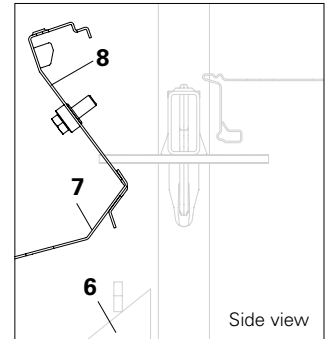
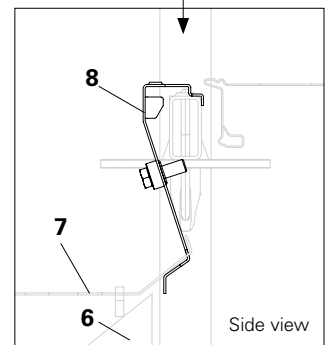

Fig. A2.09
Fig. A2.10
3. The upturned edges engage in the slits. The End Step UAE (8) and the last step are wedged together. (Fig. A2.09)
4. Pull back the End Step UAE (8) together with the last step, and then swivel up. End Step UAE (8) engages with the Horizontal Ledger. Last step engages in the Stair Stringers UA (6). (Fig. A2.09 and Fig. A2.10)
5. Check step: is the end step firmly engaged? (Fig. A2.10)
6. On the end step: tighten screws to prevent lifting. (Fig. A2.10)